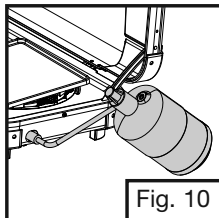

Fig. 10
10. LPG cylinder correctly installed. (Fig. 10)